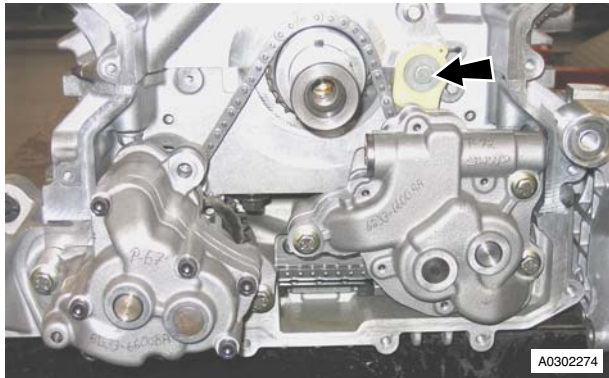

Figure 2
- Remove tensioner assembly (see Figure 2).